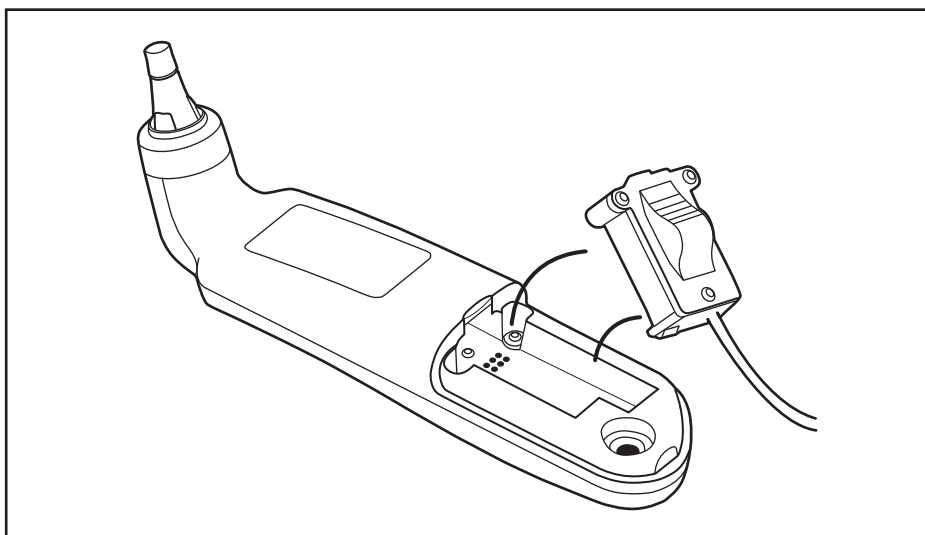
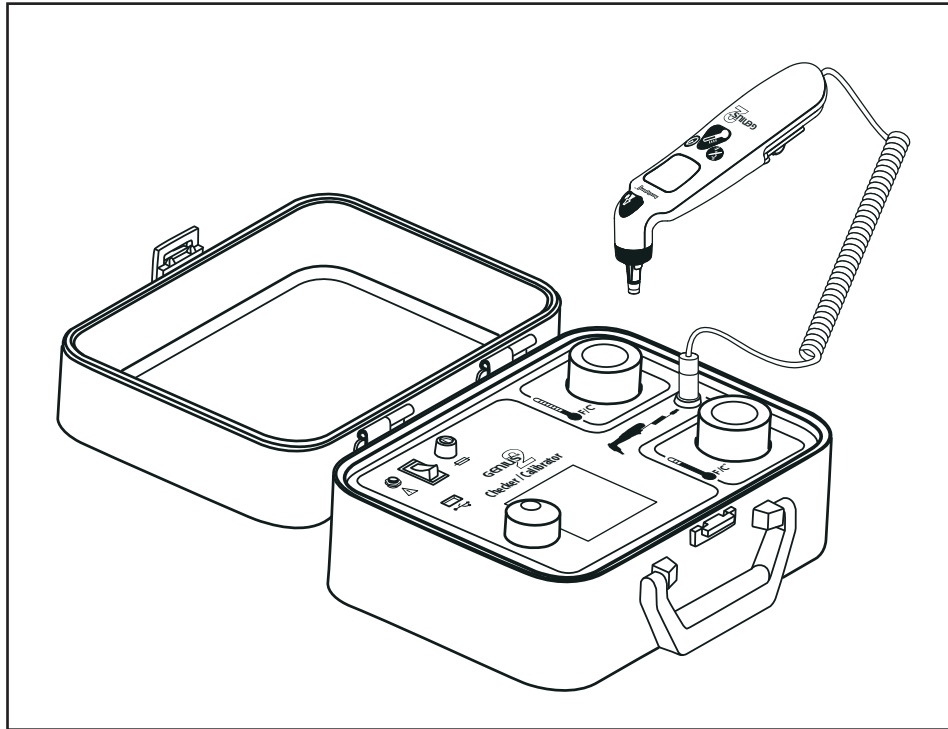

Figure 2 - Insertion of Probe Connector into GENIUS 2 Battery Compartment
Figure 3 - Proper Insertion of GENIUS 2 Probe Tip into Target
11. Connect the other end of the probe connector into the battery compartment. The connector will snap into place where the batteries were. Refer to Figure 2.
Inspect the GENIUS 2 Thermometer that will be tested. Ensure that the thermometer lens is not scratched and is free from ear wax and/or other contaminants. If the thermometer lens is "dirty", clean the lens according to the instructions in the GENIUS 2 Thermometer operating manual. Once the thermometer lens is clean, connect the GENIUS 2 Thermometer to the Checker/Calibrator by plugging the round end of the thermometer interface cable into the round connector socket on the GENIUS 2 Checker/Calibrator front panel (refer to Figure 3). Open the battery door of the thermometer by using a small Phillips screwdriver. Remove the batteries and set aside. Connect the other end of the thermometer probe cable into the battery compartment, making sure the connector "snaps" into place securely. Refer to Figure 2 in Section V.
Press the encoder knob to continue, then install a new GENIUS 2 probe cover onto the GENIUS 2 Thermometer. Make sure to use a cover that is held in the cassette. Once the cover is on the thermometer, do not point the probe tip at any object, including hands, fingers or LCD display, as this will cause an inaccurate temperature reading. Inspect the probe cover to make sure it is fully seated (no space between the cover and the tip base) and no holes, tears, or wrinkles are present in the plastic film. When the cover is on, insert the probe tip into the Low temperature target, which will have a blinking LED indicator next to it. Make sure that the probe tip is fully inserted into the target well. Refer to Figure 3 for proper insertion. In order to avoid a time-out error, insert the covered probe tip into the target within 60 seconds from the time the encoder knob is pressed.